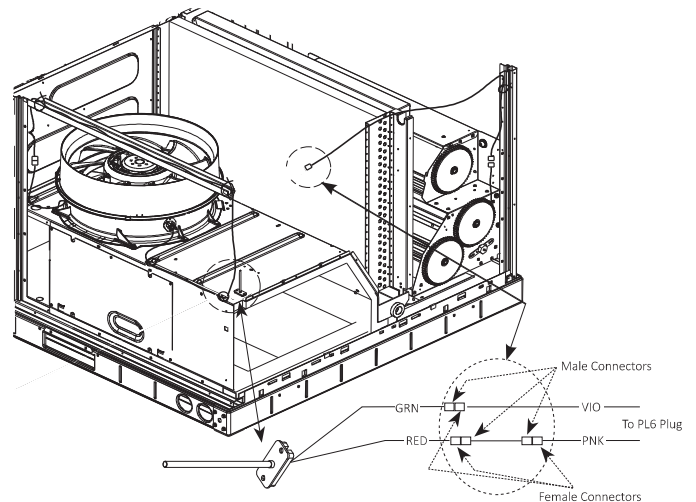

Fig. 4 - Typical MAT (SAT) for Vane Axial Fan Location. Whether Probe or Eyelet Style, Install in Same Location
6. Locate and connect the Pink and Violet wires to the MAT/SAT sensor - See **Fig. 4**.